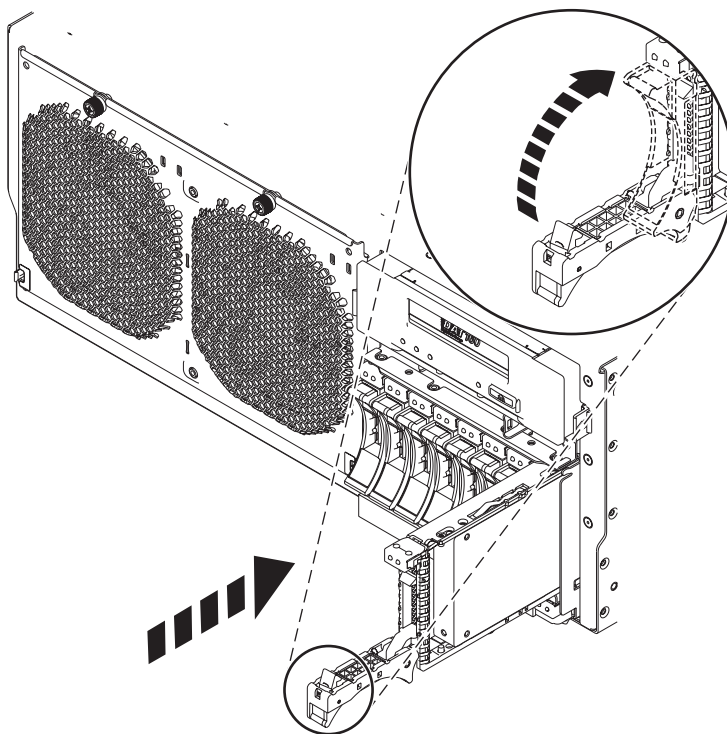

Figure 13. Installing the disk drive in the system
8. When the identify LED turns on solid, slide the drive all the way into the system or an expansion unit, and push the drive handle (A) in until it locks, as shown in Figure 13.